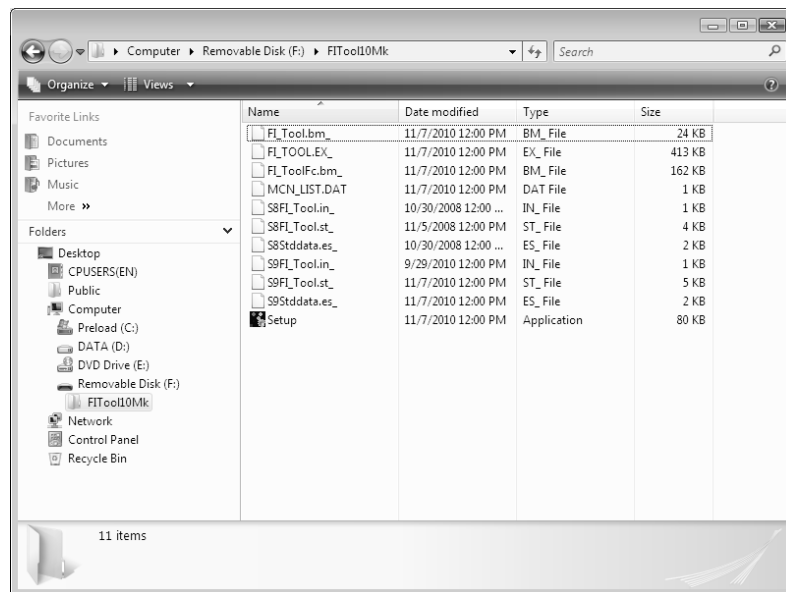

Fig.11 Explore
- (1) Start up the PC.
- (2) Insert the CD with the FI Tool program installed into the drive.
- (3) Select “Start”, “Program”, “Accessory”, and “Explore”. (The program is usually started automatically.)
- (4) Click **FITool10Mk** on the explore to display the screen shown in Fig.11.
- (5) Right-click **FITool10Mk** on the screen shown in Fig.11 and copy and paste it to the appropriate folder. After saving the folder, remove the CD from the drive.
(6) Execute **Setup.exe** to start the Setup program.